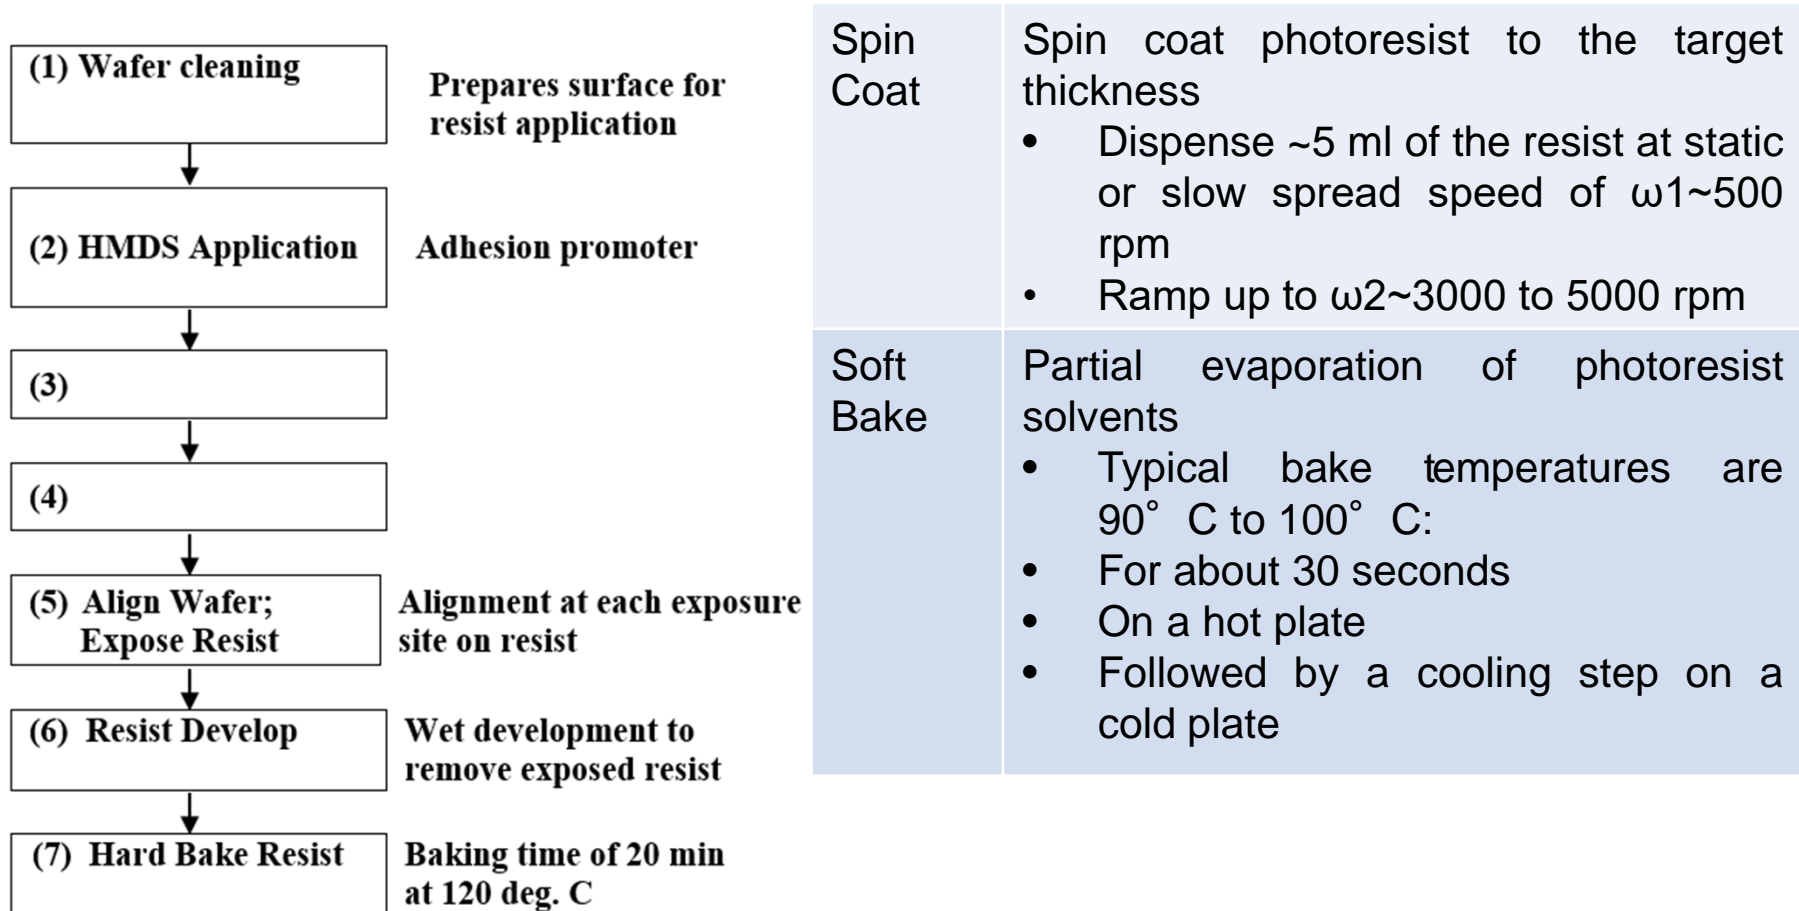

Figure 1
**3. Figure 1 shows the various steps in a lithographic process. What are the two process steps indicated in boxes (3) and (4)? Provide typical process parameters used in these steps.**